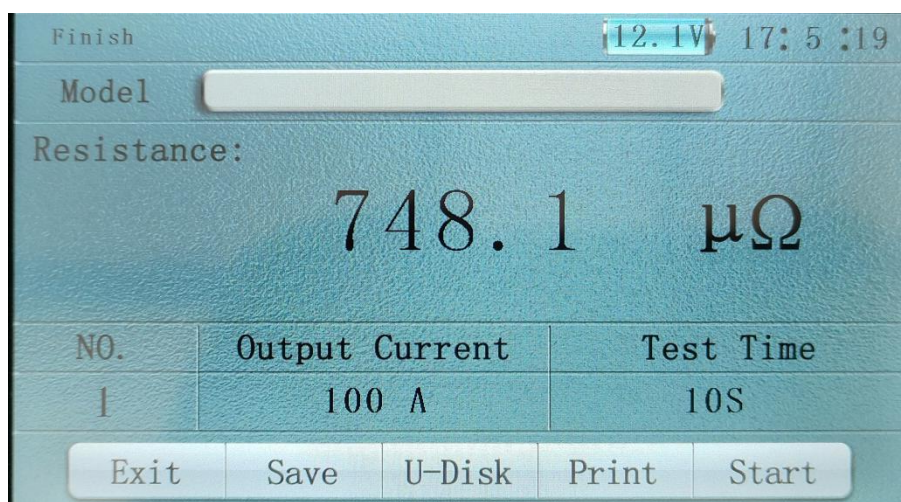

Figure 3
3. After selecting the current, click to **start the measurement**, and it will display "charging please wait" to enter the test state. After a few seconds, the test result will be displayed, as shown in Figure 3